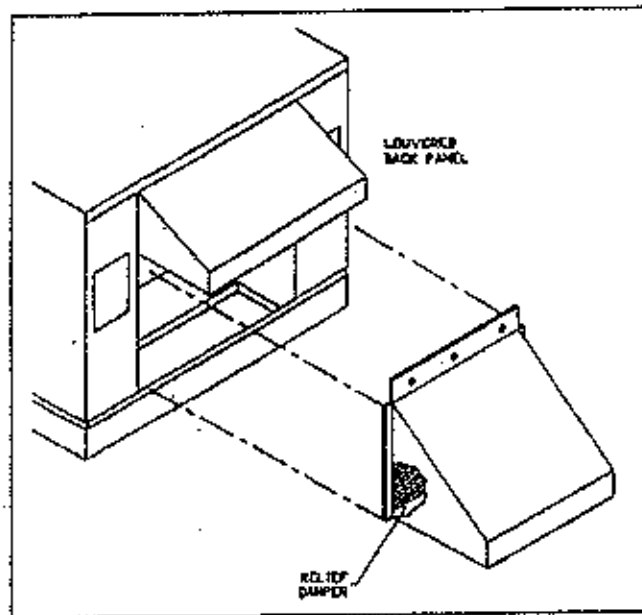

Figure 4
8. Install barometric relief hood assembly after economizer hood. Slide top flange of barometric relief hood underneath bottom flange of economizer hood. Secure barometric relief hood to unit (top & bottom) with sheet metal screws. (See Figure 4).